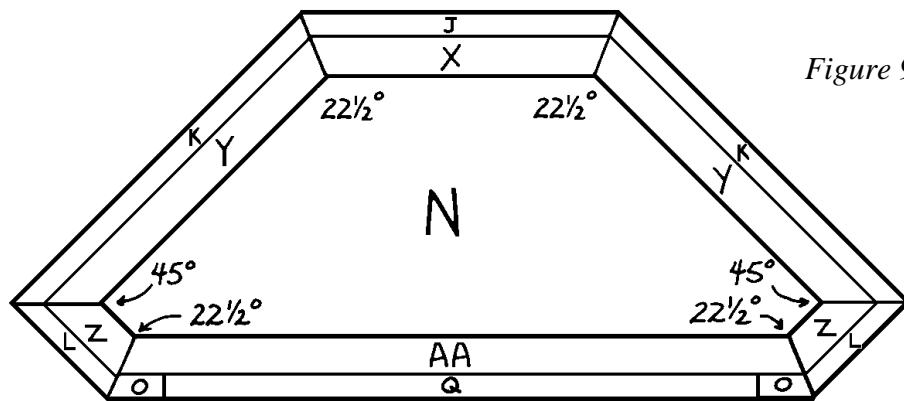

Figure 9
3. As you can see in *Figure 9*, the reinforcements must be mitered to fit the beveled edges of the pieces they reinforce. The lengths specified above give you some excess for mitering room. Measure and miter carefully so that all of the reinforcements fit properly.
4. Start by mitering both ends of the back reinforcement (X) at 22-1/2 degrees, as shown in *Figure 9*.